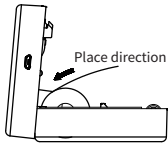

Figure 3
- When replacing supplies, place the supplies in reference to the direction shown in figure 3.